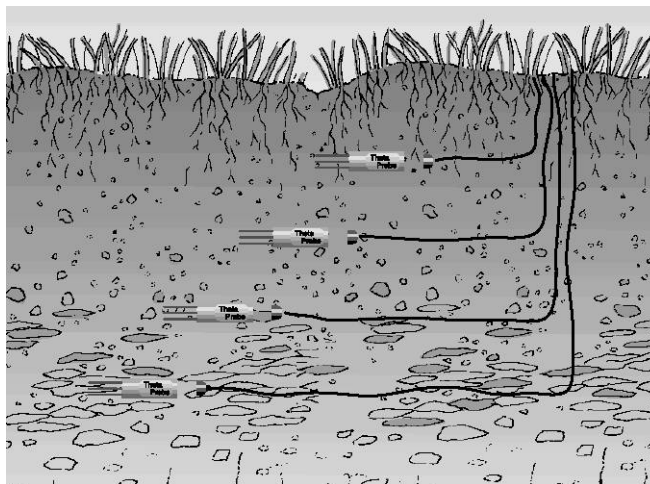

Figure 82 Buried ML2x Sensors
2. To bury the sensor in the soil, see Figure 82 on page 93:
- c. When several sensors are buried, refer to Figure 82 on page 93 for finalized installation.